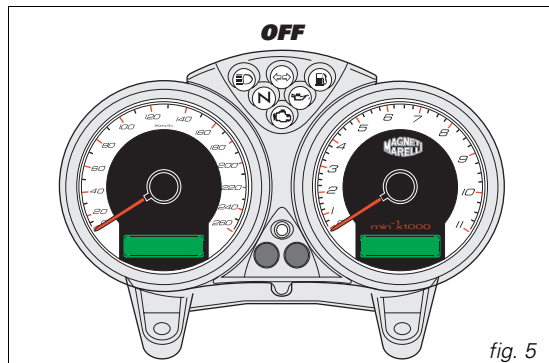
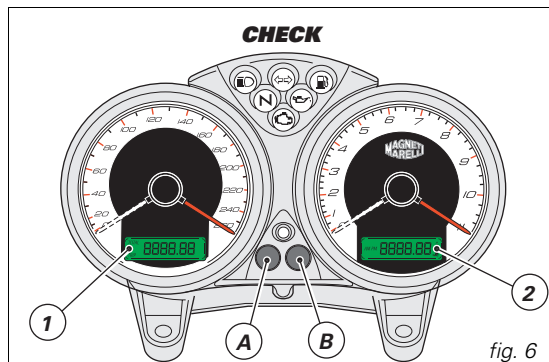

fig. 5
fig. 6
When the engine is switched on (key moved from **OFF** to **ON**), the instrument panel checks all instruments (dials, display, indicator lights), see (fig. 5 and fig. 6).
If the button (A, fig. 6) is pressed with the ignition key at **ON**, the display shows the trip meter and odometer alternately.
If the button (A, fig. 6) is held for more than 2 seconds while **TRIP** (trip meter) is active, the display is reset (LCD 1).
If the button (B, fig. 6) is pressed with the ignition key at **ON**, the display shows the clock and oil temperature.
Press the button (B, fig. 6) for at least 2 seconds. Select AM/PM by pressing the button (A, fig. 6). Press the button (B) to change to hour adjustment. Press (A) repeatedly to change the hour indication. Press the button (B) to change to minute adjustment. Press the button (A) to increase the minutes; hold the button pressed for more than 5 seconds to increase the rate of change. Press the button (B) to complete the adjustment.
Press button (B, fig. 6) within 5 seconds after the ignition key is turned to the **ON** position to adjust the brightness of the backlight. Brightness varies each time the button is pressed.